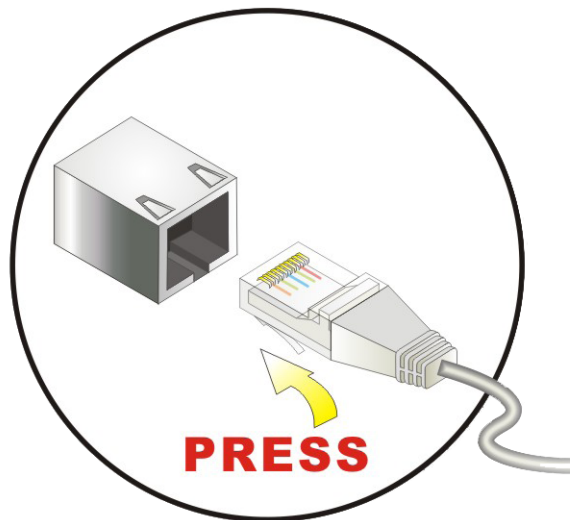

Figure 5-14: LAN Connection
Step 2: Align the connectors. Align the RJ-45 connector on the LAN cable with one of the RJ-45 connectors on the 3308460. See **Figure 5-14**.